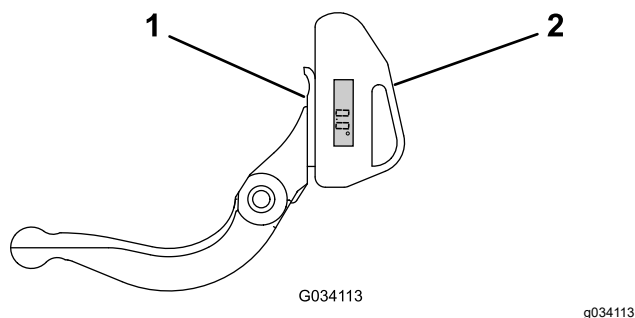

Figure 23
1. Place the angle indicator on the bottom side of the bedknife as shown in Figure 23.